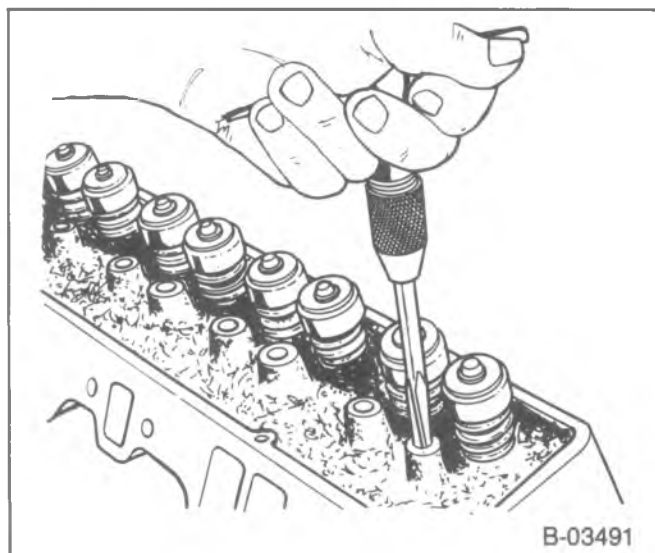

Figure 12—Reaming the Rocker Arm Stud Bore (Typical)
**Install or Connect (Figures 12 and 13)**
- Ream the hole to the proper size for the replacement oversize rocker arm stud. Use J-5715 for 0.003-inch oversize studs; J-6036 for 0.013-inch oversize stud (figure 12).